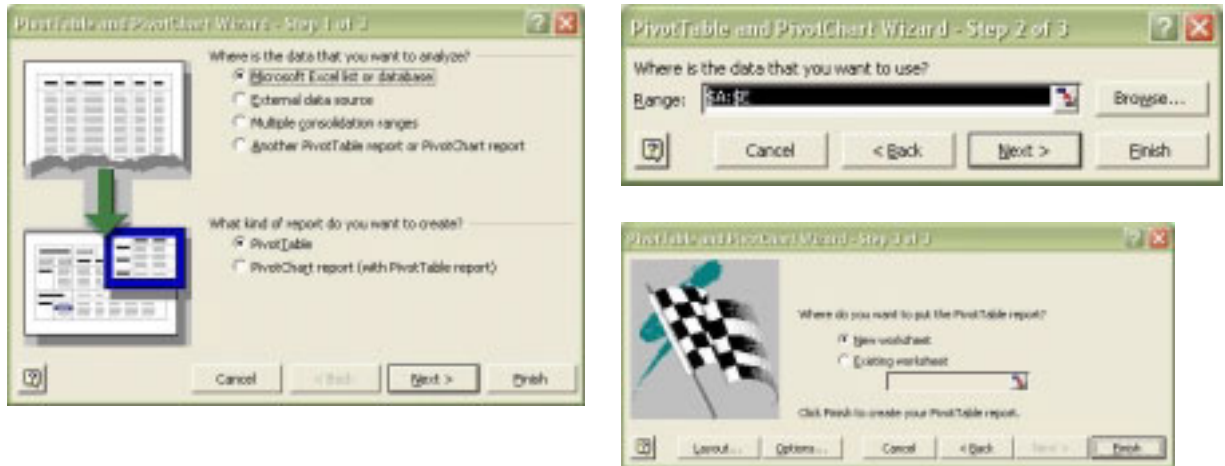

Figure 5 – PivotTable Options
- For our example, we would like to know how many and what percentage of our tasks passed or failed. A PivotTable quickly summarizes the categories of data and puts it in an easily readable format. Start by selecting the entire worksheet of data. Then select from the pull down menu **Data > PivotTable and PivotChart Report**. Select the options for the PivotTable as shown in Figure 5 below.